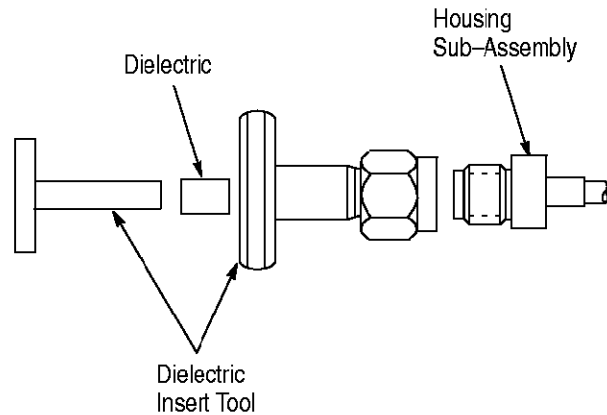

Figure 6
3.4. Pressing of Dielectric Bushing into Housing Sub-Assembly (Figure 6)